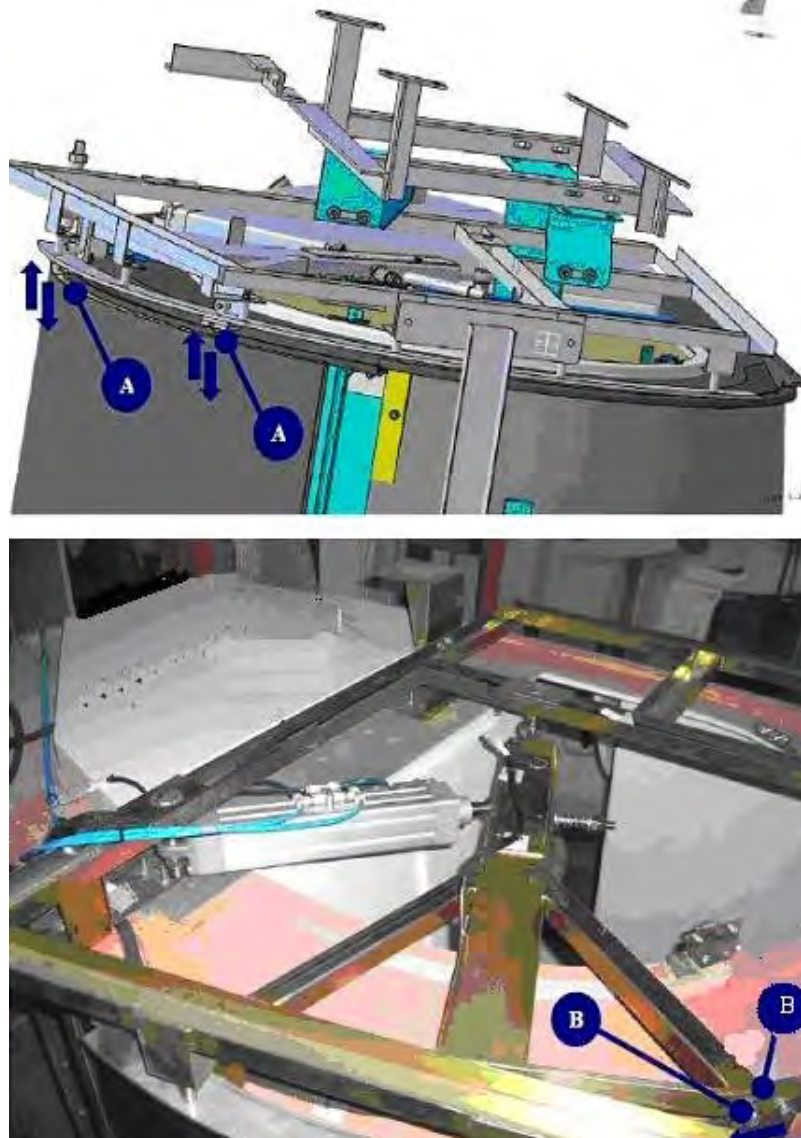

Figure 2: Door Leaf Mounting Fasteners
- 3.2 Remove the door leaf by removing the fasteners A and B (see Figure 2).